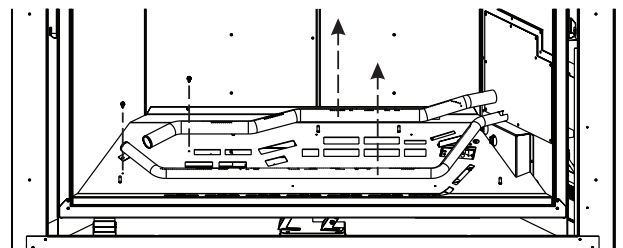

Figure 7
2. Remove front and rear burner. See Figure 7.